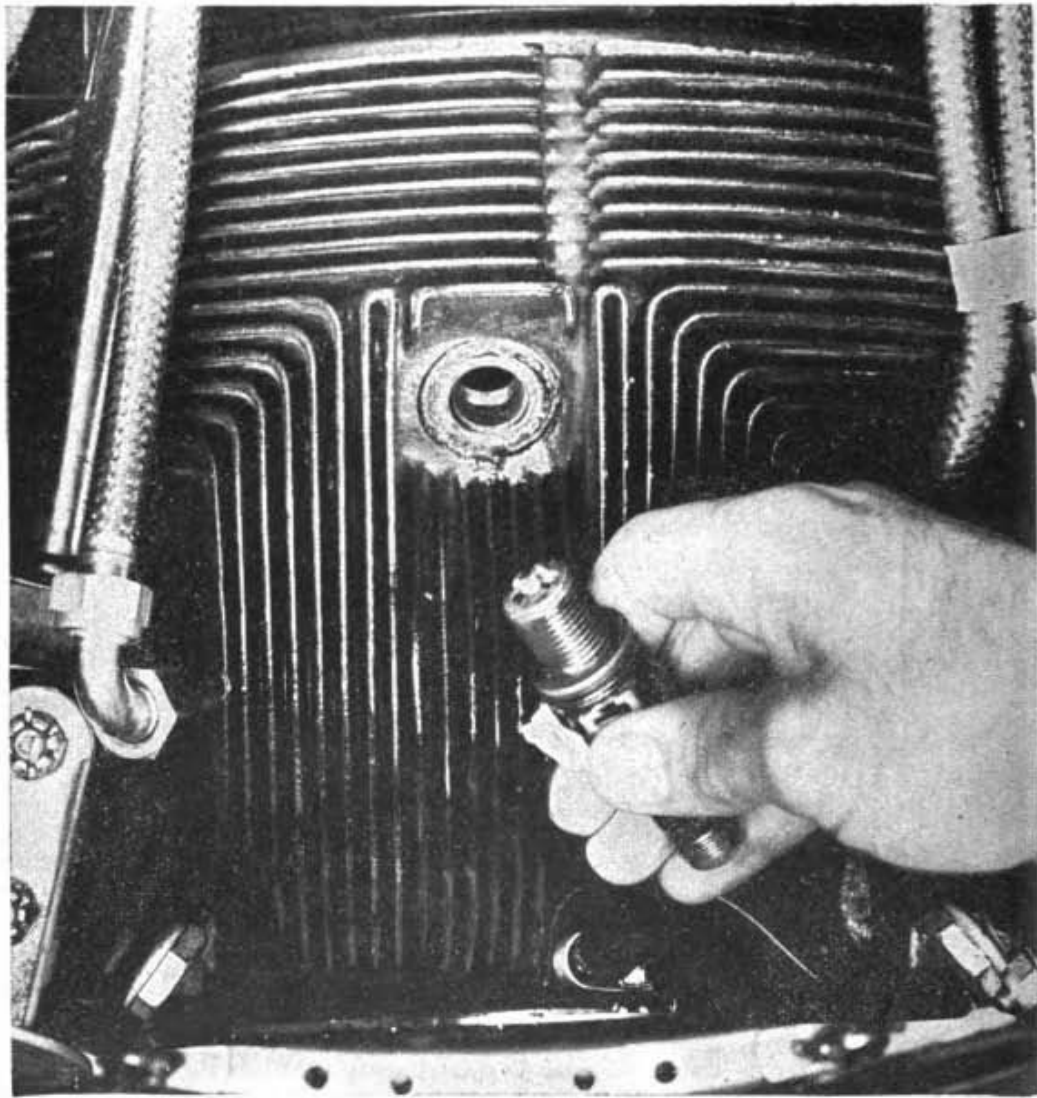

Figure 23. Removing liquid from the combustion chamber.
(3) If the propeller cannot be rotated in either direction, remove the spark plugs (see fig. 23) and the intake pipes of the bottom cylinder so